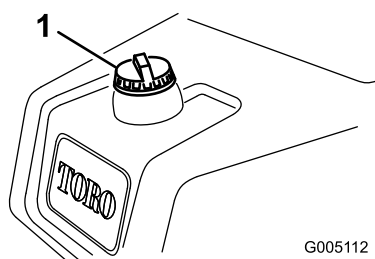

Figure 26
1. Clean around the fuel tank cap and remove it (Figure 26).